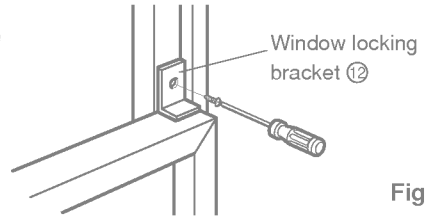

Fig. 9
- Attach the Window Locking Bracket ⑫ with a Type C screw ⑦. (See Fig. 9)